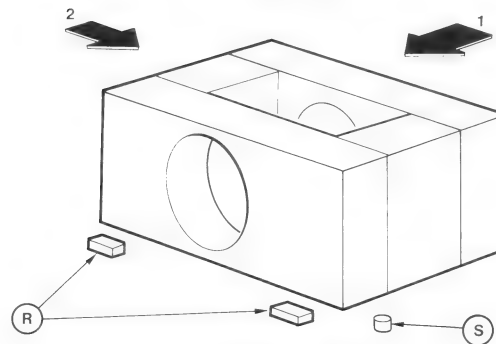

Figure 4.2.9d
- Proceed in reverse order. Take care in positioning magnet assembly on its stops R and S (Push forward in 1 direction then on side in 2 direction) (figure 4.2.9d).